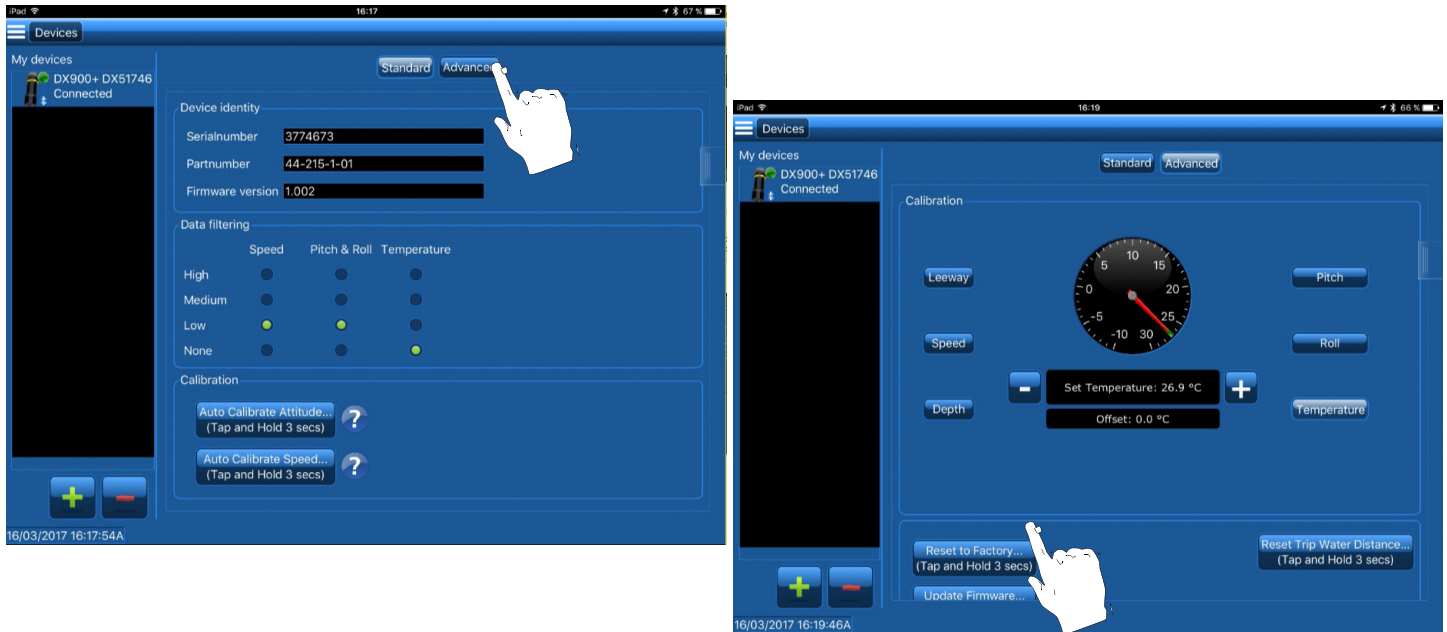

Figure 13. Manually offset Speed
9. In the *Calibration* section, touch **Speed** (Figure 13).